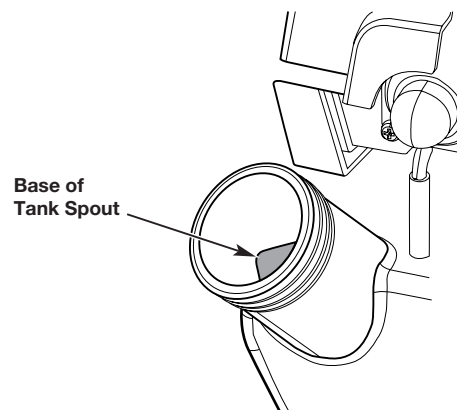

Fig. 6a
3. Place the fuel container spout into the fuel tank fill hole and fill the tank. Stop adding gas when you see that the level reaches the base of the tank spout (Fig. 6a).